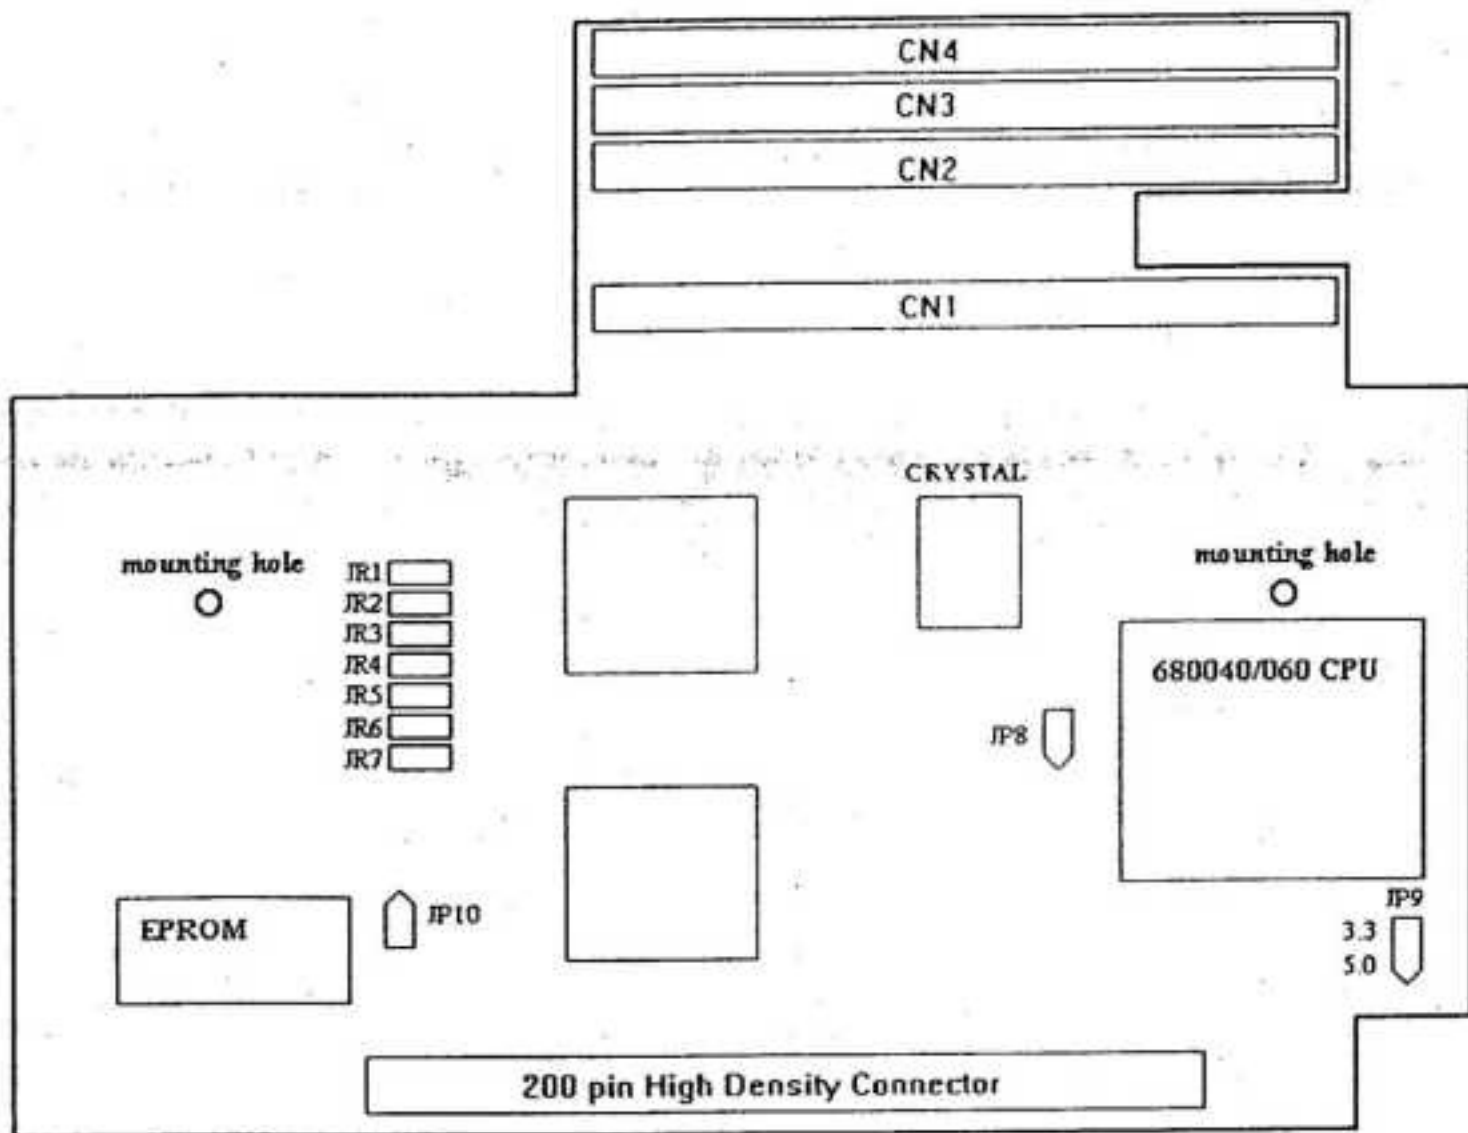

Figure 3.3 - A4000T Board Layout
The A4000T-040/060 accelerator has four SIMM sockets (CN1-CN4) which are located on the upper half of the component side of the board (See figure 3.3) The board is designed to support "burst mode" and EDO type DRAMs in SIMM sizes of 4MB, 8MB, 16MB and 32MB (parity is not required) However, in order for the board to function properly the board must be configured correctly and several limitations must be observed for optimal performance. These configurations and limitations are discussed in the following sections.
As stated previously, there are four DRAM SIMM sockets on the A4000T-040/060 accelerator, comprising the upper part of the board. (See Figure 3.3) The operating system will automatically sense whether a SIMM is installed in each socket and will add this memory to the system accordingly.
- 2) Lay the accelerator board on the anti-static envelope in which it was packaged the way that it is displayed in figure 3.3.
The SIMMs are designed to fit into the sockets in only one way. Pin 1 of each SIMM is keyed with a notch and will only fit properly if this notch matches the corresponding key of the SIMM socket. Looking at the board as shown in figure 3.3 all socket keys are on the left side of the board. Orient each SIMM so that the notch or pin 1 is on your left and the edge with the silver contacts is pointing down. Simply slide the SIMM in on an angle, rotate it up, and snap it into place.
- 8) Install the nylon spacers on new accelerator in mounting holes shown in figure 3.3 by snapping them into place.